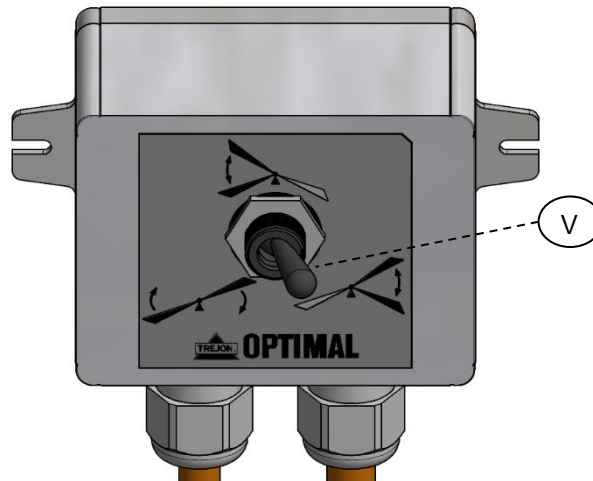

Figure 31
The VPX180; VPX220 plough is supplied with a control box (**art. no. 330008**). The control box's toggle switch (V) – see Figure 31 – can be set in three different positions: right, left or centre.